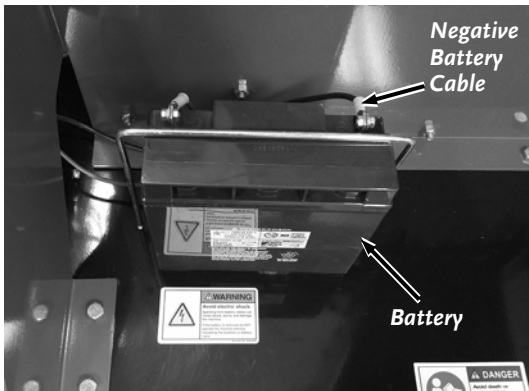

Figure 36
2. Using a 5/16 Wrench and a Phillips Screwdriver, disconnect the negative terminal at the Battery (**Figure 36**).